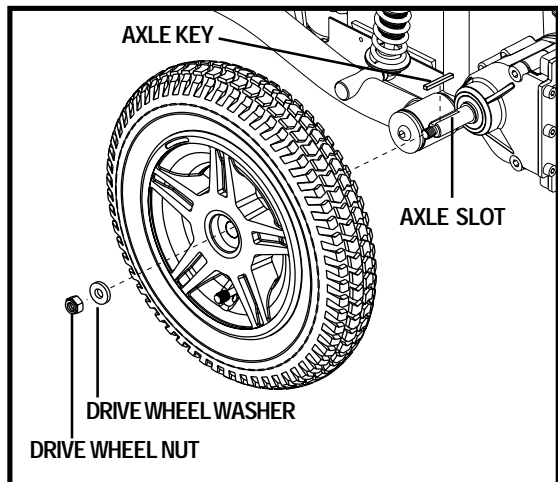

Figure 20. Quantum 614 Series Drive Wheel
4. Remove the drive wheel nut and washer from the axle. See figure 20.